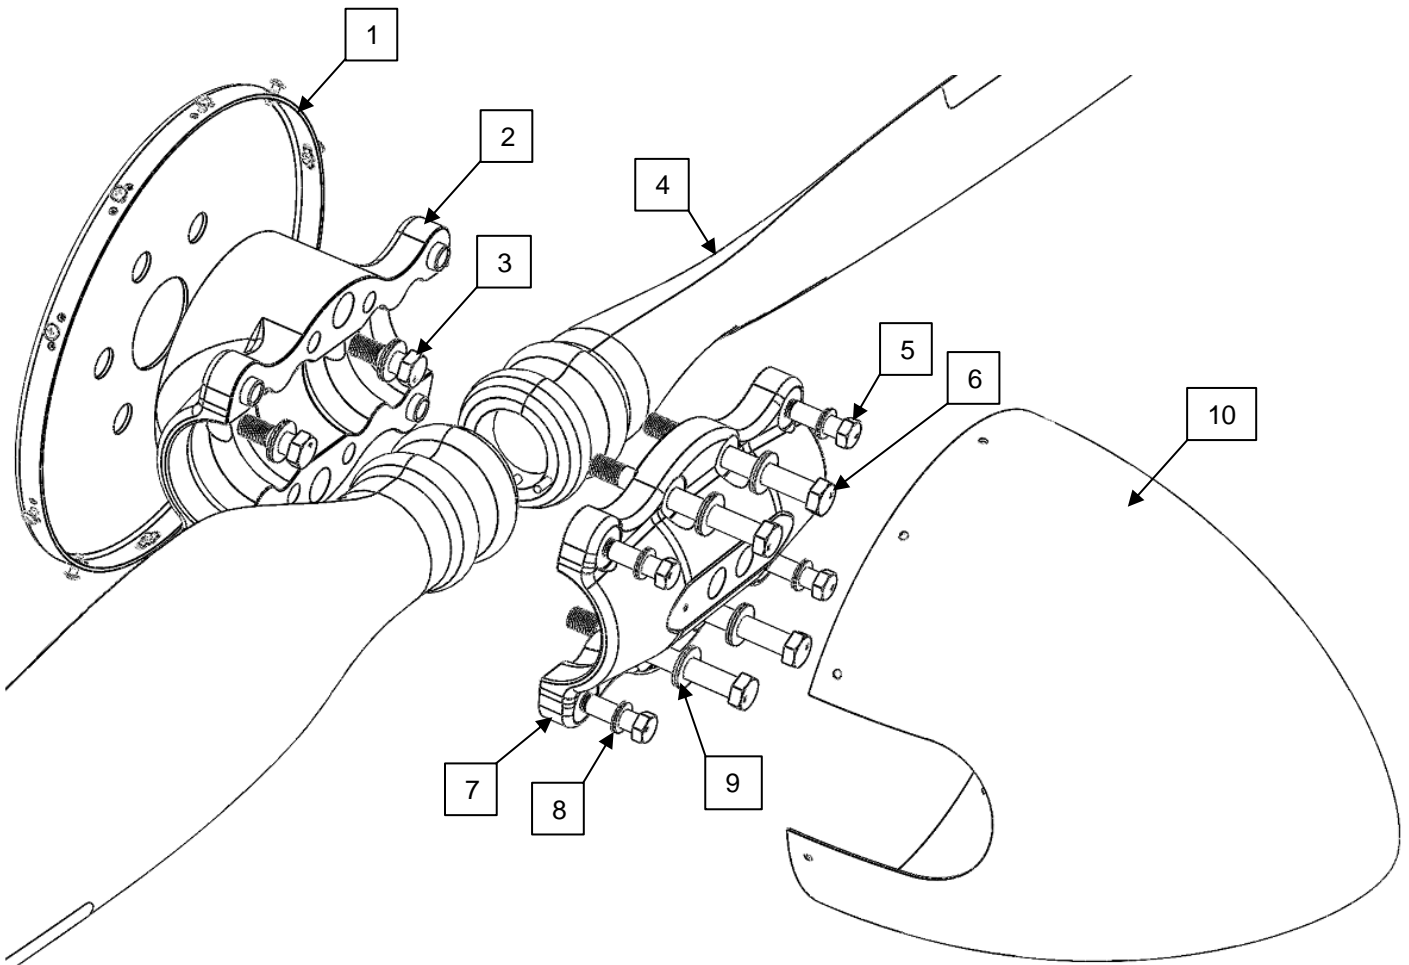

Figure 1: Propeller Assembly
A-1608 and A-1889 not included in Figure 1.
1. Ensure the aircraft magneto switch is in the "OFF" position and that both magnetos are grounded any time the propeller is handled. Chock the aircraft wheels to prevent movement. Clean dirt and oil residue from the engine flange. Refer to **Figure 1** for views of the two-piece hub and blade exploded assembly.
2. Zero the level/protractor on the engine flange (If digital level/protractor is being use make sure it does not turn off during the installation process). Place rear spinner bulkhead (if used) and the hub mount, as shown in **Figure 1**, on the engine flange. The hub MUST sit flush on the engine flange.
3. Refer to **Figure 1** for views of the two-piece hub and blade exploded assembly. Using two Nord-Lock mount bolt washers and the two inner mount bolts (2"), secure the hub mount half and rear spinner bulkhead (if used) to the engine flange. Using a calibrated torque wrench, torque the two inner mounting bolts evenly using an alternating pattern. Tighten the bolts in several increments up to full torque, such as 50%, 75%, and full torque. See **Table 1**.